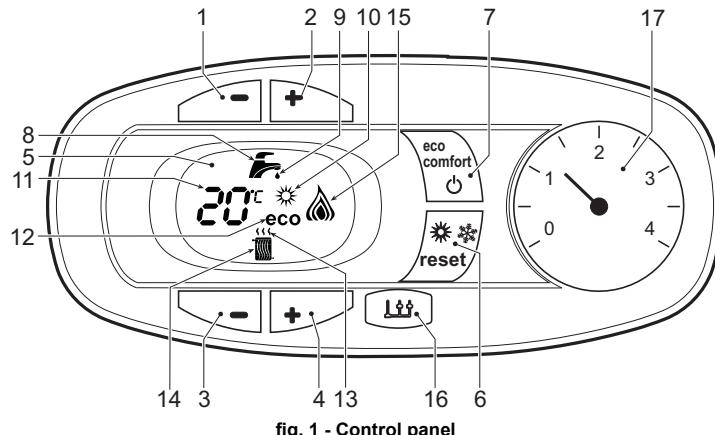
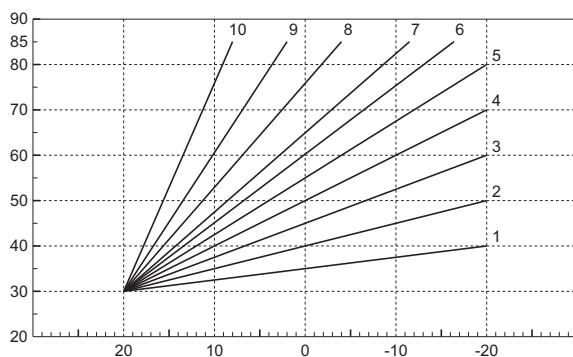
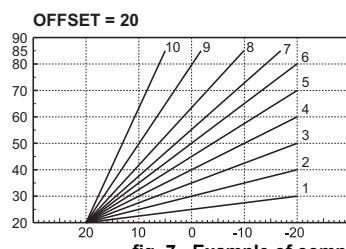

fig. 1 - Control panel
fig. 6 - Compensation curves
fig. 7 - Example of compensation parallel curve offset
**Key of panel fig. 1**
The display (detail 11 - fig. 1) shows the actual heating delivery temperature and, during heating standby time, the message "d2".
The display (detail 11 - fig. 1) shows the actual DHW outlet temperature and, during DHW standby time, the message "d1".
A Comfort demand (reinstatement of temperature inside the boiler) is indicated by flashing of the water under the tap on the display. The display (detail 11 - fig. 1) shows the actual temperature of the water in the boiler.
In case of a fault (see cap. 4.4) the display shows the fault code (detail 11 - fig. 1) and during safety pause times the messages "d3", "d4" and "d5".
Press the on/off button (detail 7 - fig. 1) for 5 seconds.
When the boiler is turned off, the circuit board is still powered. Domestic hot water and heating are disabled. The frost protection system remains activated. To relight the boiler, press the on/off button (detail 7 fig. 1) again for 5 seconds.
Press the summer/winter button (detail 6 - fig. 1) for 2 seconds.
The display activates the Summer symbol (detail 10 - fig. 1): the boiler will only deliver domestic hot water. The antifreeze system remains activated.
To deactivate the Summer mode, press the summer/winter button (detail 6 - fig. 1) again for 2 seconds.
Use the heating buttons (details 3 and 4 - fig. 1) to adjust the temperature from a min. of 30°C to a max. of 80°C; in any case, it is advisable not to operate the boiler below 45°C.
Use the DHW buttons (details 1 and 2 - fig. 1) to adjust the temperature from a min. of 40°C to a max. of 55°C.
The user can deactivate the device (ECO mode) by pressing the **eco/comfort** button (detail 7 - fig. 1). In ECO mode the display activates the ECO symbol (detail 12 - fig. 1). To activate the COMFORT mode, press the **eco/comfort** button (detail 7 - fig. 1) again.
With the Sliding Temperature adjustment, the temperature set with the heating buttons (detail 3 - fig. 1) becomes the maximum system delivery temperature. It is advisable to set a maximum value to allow system adjustment throughout its useful operating range.
Press the **reset button** (detail 6 - fig. 1) for 5 seconds to access the "Sliding temperature" menu; the display shows "CU" flashing.
Use the DHW buttons (detail 1 - fig. 1) to adjust the desired curve from 1 to 10 according to the characteristic (fig. 6). By setting the curve to 0, the sliding temperature adjustment is disabled.
Press the heating buttons (detail 3 - fig. 1) to access parallel curve offset; the display shows "OF" flashing. Use the DHW buttons (detail 1 - fig. 1) to adjust parallel curve offset according to the characteristic (fig. 7).
Press the **reset button** (detail 6 - fig. 1) again for 5 seconds to exit the "Sliding Temperature" menu.
Eco/Comfort selection	On disabling DHW from the Remote Timer Control menu, the boiler selects the Economy mode. In this condition, the eco/comfort button (detail 7 - fig. 1) on the boiler panel is disabled.
Sliding Temperature	On enabling DHW from the Remote Timer Control menu, the boiler selects the Comfort mode. In this condition it is possible select one of the two modes with the eco/comfort button (detail 7 - fig. 1) on the boiler panel.